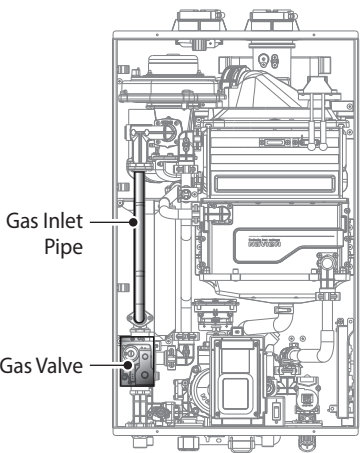

Figure 2. NPE Series Internal Components
3. Once the front cover is removed, place it in a safe location to prevent accidental damage. With the internal components exposed, locate the gas inlet pipe and the Gas Valve near the left side of the unit which are highlighted in Figure 2.